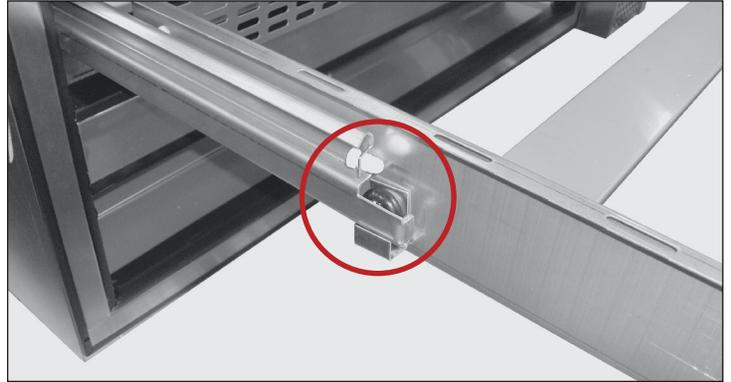

Fig. 1. Roller clip location.
3. Rotate the roller clips to the down position. See figs. 1 and 2.